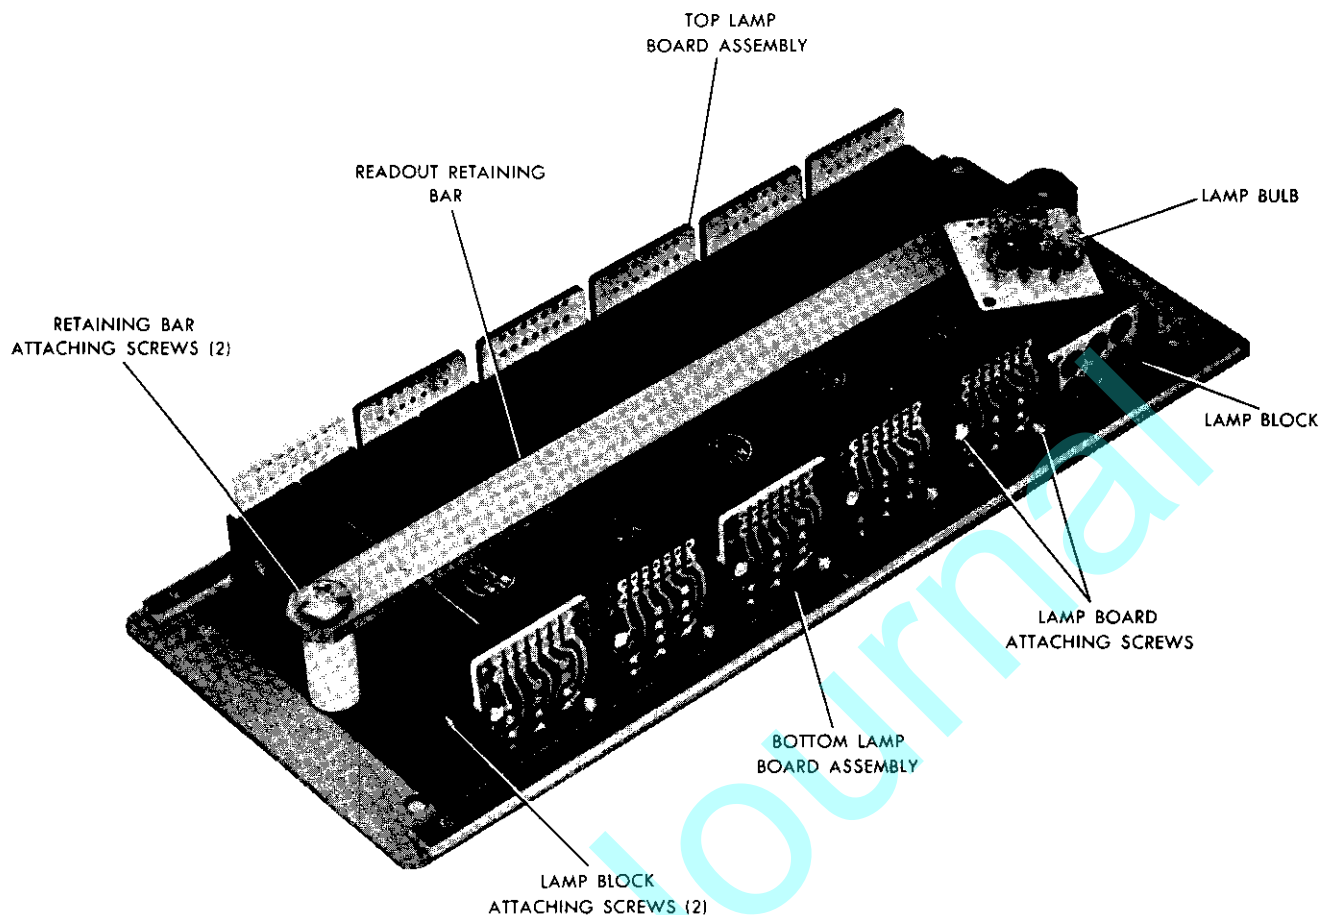
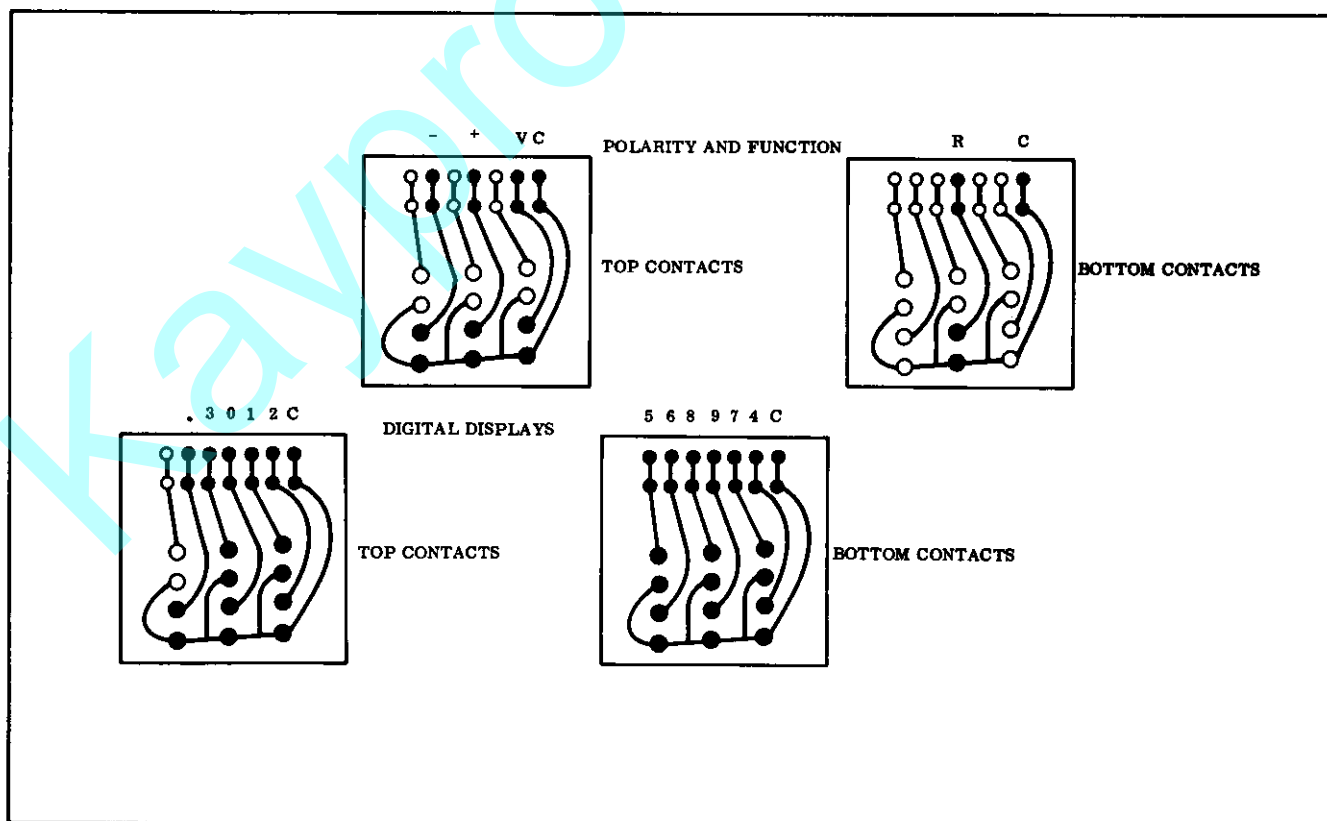

Figure 5-4. Readout Assembly
Figure 5-5. Lamp Bulb Replacement
The digital readout assembly (Figure 5-4) does not ordinarily require maintenance other than lamp bulb replacement and an occasional cleaning. Most readouts have decals on the readout cover, on the top and bottom of each readout, to show which contact is providing the signal for each digit or symbol. If decals are not provided, see Figure 5-5 for information to locate each digit or symbol contact point.
2. Locate the correct contact point for the defective bulb either by noting the decal on the specific readout or by referring to Figure 5-5.